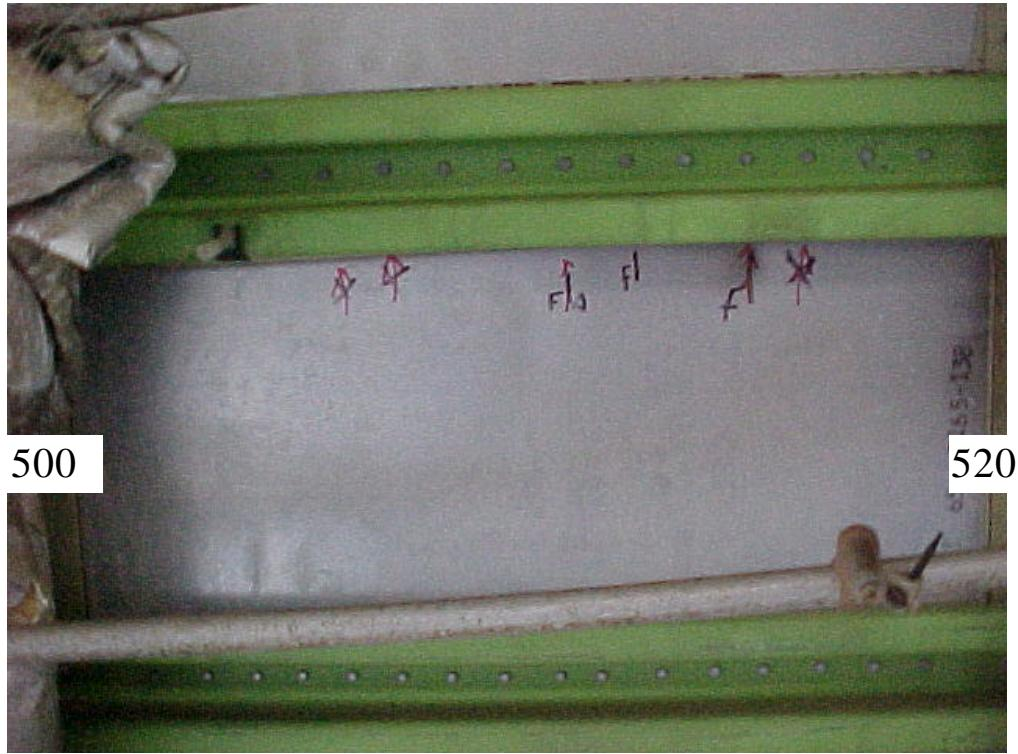

Figure C-4. Photograph of indication locations found during DVI and MFEC inspections. Stringer 4R,
- FIGURE C-4 Photograph of indication locations found during DVI and MFEC inspections. Stringer 4R, BS 500 to BS 520..... C-4